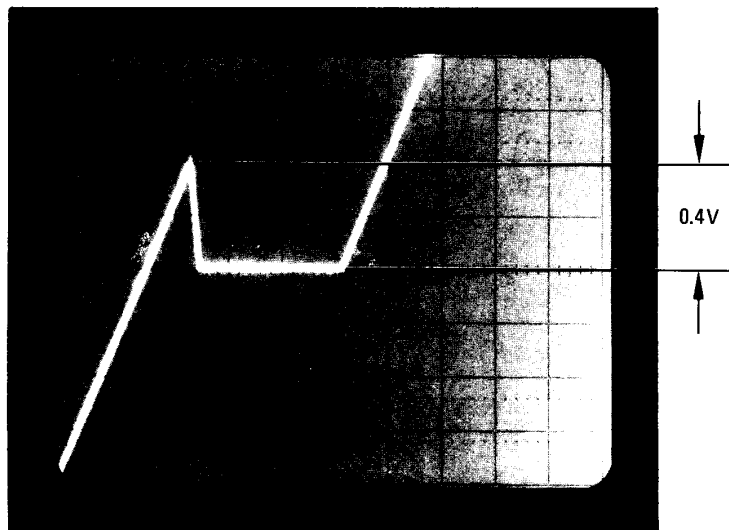

Figure 5-23. Oscilloscope Display of SWEEP OUTPUT Showing 0.4V Backstep
- o. Connect rear-panel SWEEP OUTPUT to oscilloscope CHAN A input and internally trigger oscilloscope on CHAN A. Set oscilloscope to 0.2 volts/div (DC coupled), 0.5 msec/div, AC trigger on positive (+) slope. Adjust trigger level and vertical position to obtain a waveform similar to that shown in Figure 5-23. Note that the trace shows a voltage that increases, then backsteps, then is constant, and then increases again.
- p. Adjust A14R78 BKSTEP until the backstep portion of the trace is 0.4V, or 2 divisions, as shown in Figure 5-23.